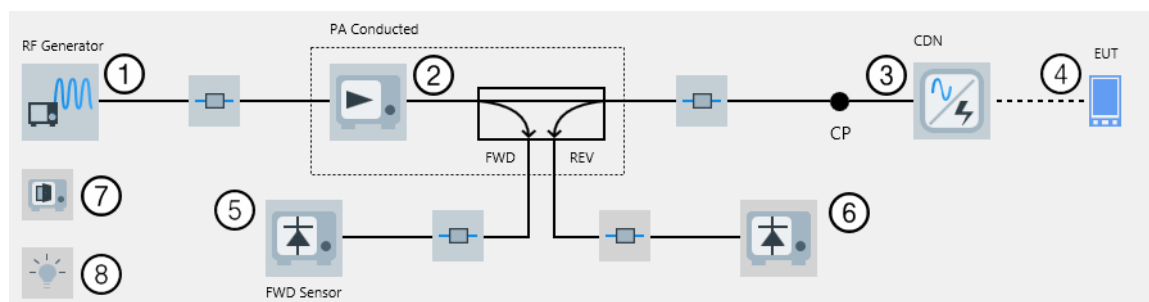

Figure 4-148: EMS hardware setup diagram (conducted) for CDN / EM Clamp in EUT Test View
To select a device or a signal path for integrating it into the hardware setup, click its icon in the diagram. For example, click the generator icon (labeled (1) in Figure 4-148).
Note that this monitoring procedure is different from other setups. For example, an EMS - CDN / EM Clamp setup provides for tests without a receiving transducer (see Figure 4-148).
- The "EUT Test View" (see Figure 4-148)